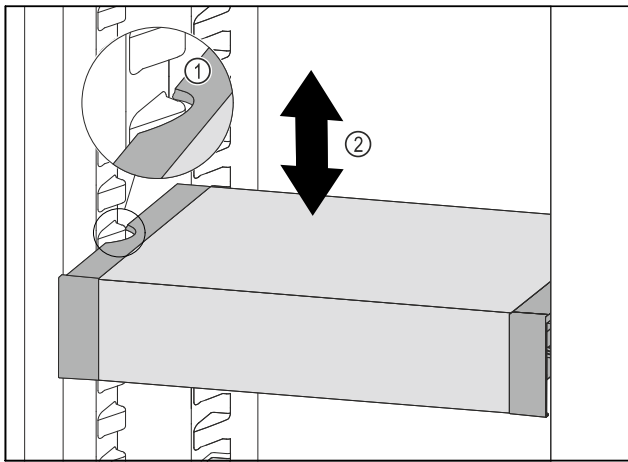

Fig. 171
- Pull VarioSafe forwards until the recesses in the side of the VarioSafe are at the level of the support rib in the refrigerator compartment. Fig. 171 (1)
- Move VarioSafe up or down in the refrigerator compartment until the desired height is reached. Fig. 171 (2)